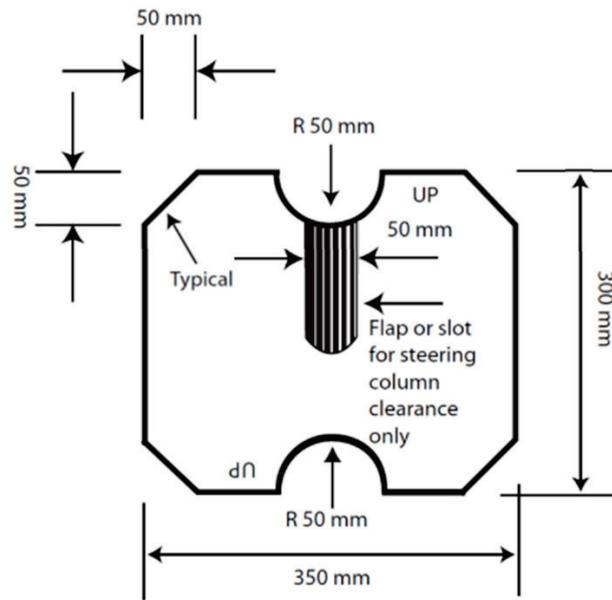

Figure 1
- 2.2.3 In derogation from 2016 FSAE rule T4.2 the cockpit internal cross section template may be replaced by the template shown in Fig. 1 in a section of max. 200 mm length in the area of the steering actuation. Except for the 200 mm section, the original template must be used. The template must be used as depicted in Fig. 1 or upside down.